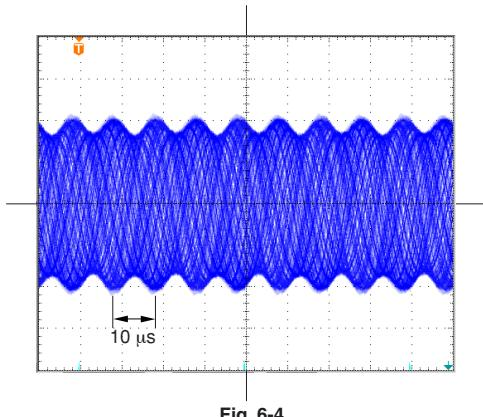

Fig. 6-4
- Try the adjustments ③ and ④ alternately until turning the GBAL trimmer does not cause the adjacent peaks to differ.
- ⑤ Set the GBAL trimmer to approximately the center position and move the scale to observe the waveform as shown in Fig. 6-4. When doing this, adjust the PHASE trimmer to minimize the ripple on the envelope. Fine adjust the GBAL trimmer also for minimum ripple. Fine adjustment may be facilitated by increasing the sensitivity of the oscilloscope (to 50 to 100 m/div) and displaying the ripple, enlarged, in the middle of the frame.